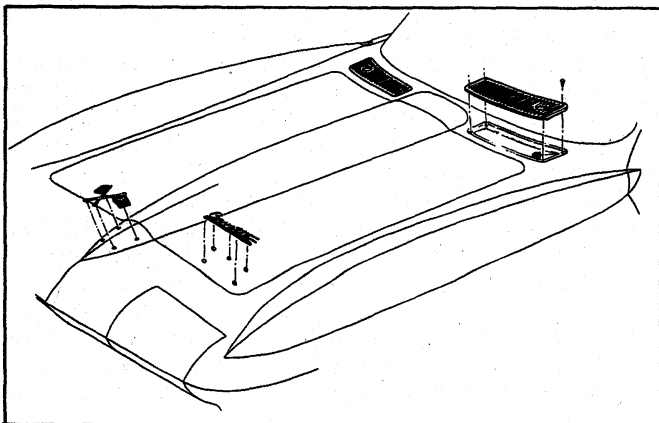

Fig. 5—Emblem and Vent Grille
The front emblem is retained by special nuts which may be reached by raising hood (fig. 5).
2. Remove four screws attaching grille to body (fig. 5).